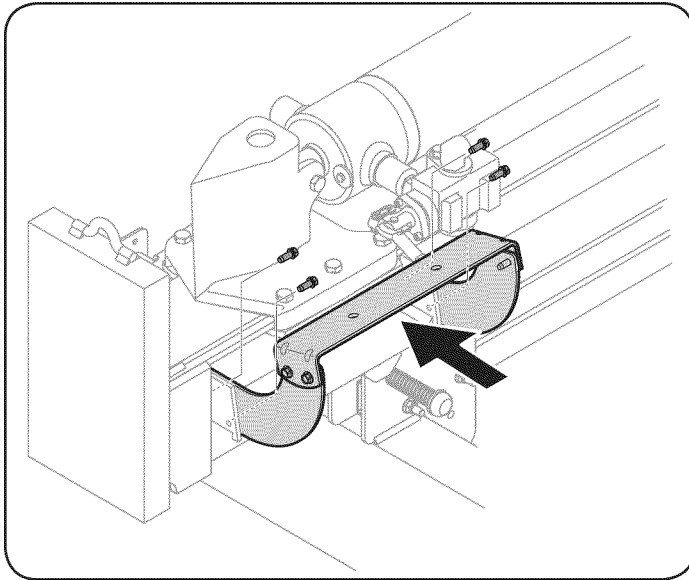

Figure 7
20. Reattach the log cradle to the side of the beam with the control valve, aligning the holes in the cradle with the holes in the beam. See Figure 7.